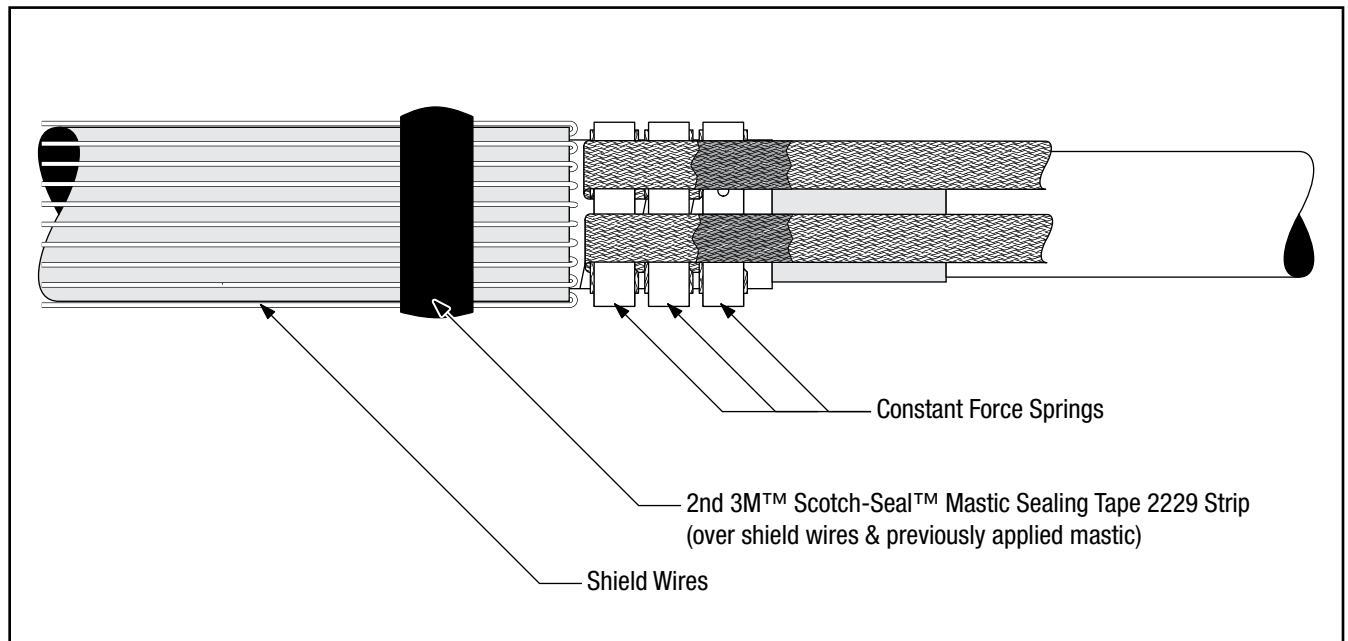

Figure 15
- 4.4 Select the roll of 1" (25 mm) wide 3M Scotch-Seal Mastic Sealing Tape 2229 from the kit. Cut a length of mastic long enough to wrap over the shield wires and previously applied mastic. Fold the ground braid tails out of the way. Remove the release liner from the mastic and, using light tension, apply a **SINGLE WRAP** of mastic around the cable jacket, positioned over the shield wires and previously applied mastic. (Figure 15)